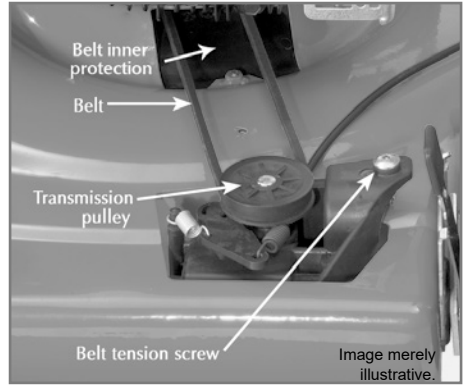

Figure 7
- ✓ Loosen the belt tension screw (Fig. 7).